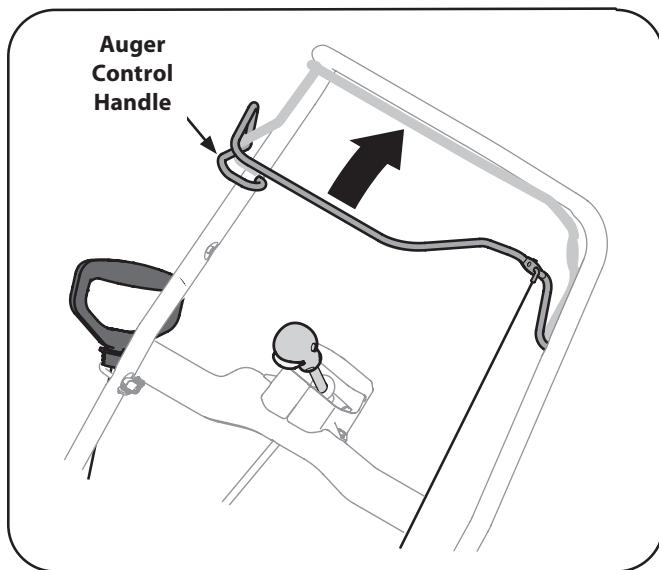

Figure 5-1
- To engage the auger and start throwing snow, squeeze the auger control against the handle. Release to stop the auger. See Fig. 5-1.